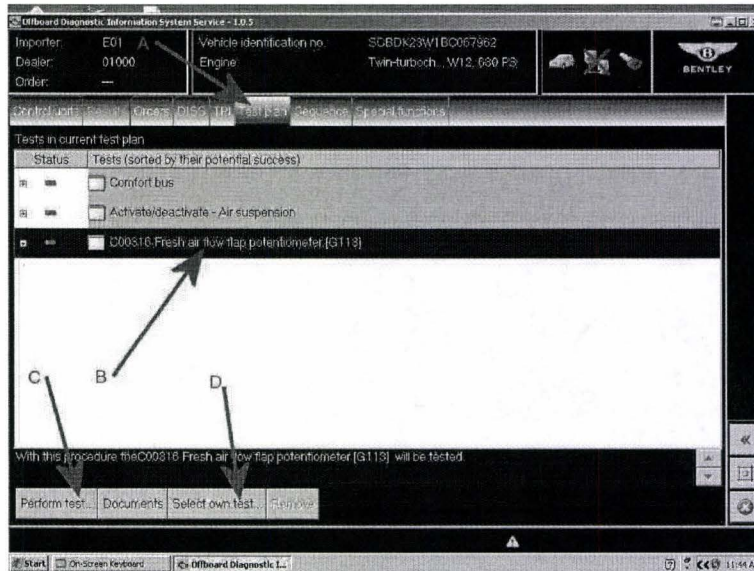

Figure 2
- Once guided fault finding control module sweep is complete follow all on screen prompts until the Test plan can be selected - Select Test Plan (Figure 2 point A)
- Select the Fresh air flap potentiometer test and/or air circulation flap potentiometer test dependent on event (Figure 2 point B)
- Select Perform test (Figure 2 Point C) and follow all on screen prompts to completion
- Should only one motor be found to be at fault, the motor with no fault should also be actuated by selecting the following - Select own test (Figure 2 Point D) and follow all relevant on screen prompts.